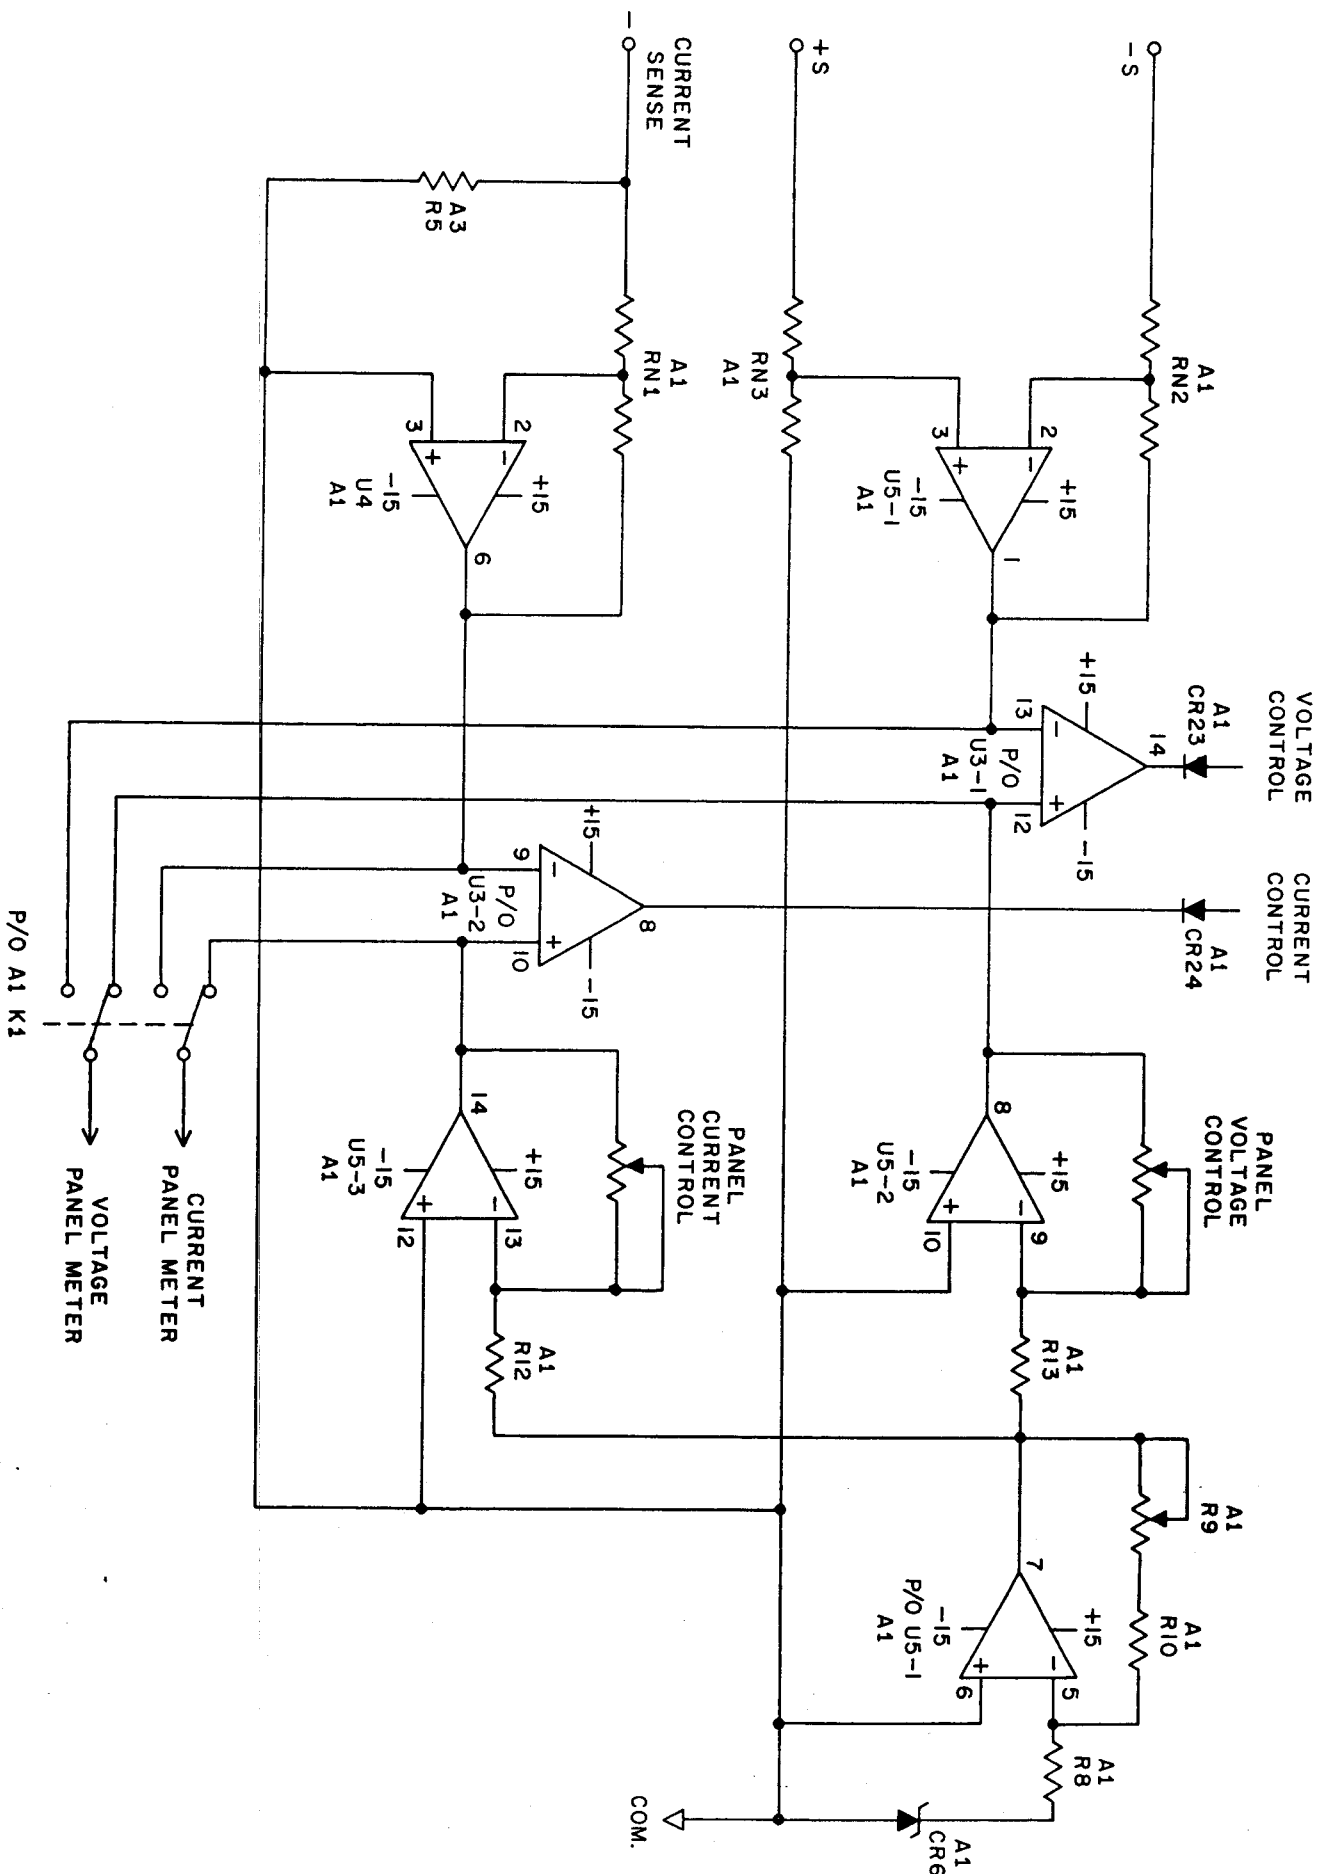

FIG. 3-1 SIMPLIFIED SCHEMATIC, VOLTAGE AND CURRENT CONTROL.
- 3-2** The following paragraph basically describes circuit operation. Refer to the simplified schematic, Figure 3-1 and the main schematic, Figure 5-1.
- 3-8 REFERENCE VOLTAGE:** Refer to Figure 3-1. All models of the series use zener A1CR6 as the standard voltage reference. This voltage is the input to op-amp A1U5-1 as shown. Potentiometer A1R9 is a feedback resistance that is set at the factory to calibrate the reference voltage for an individual unit. The output of A1U5-1 is a stable - 10 Volts that will be proportioned to values that are used for the individual models of the MSK Series which have different output characteristics.